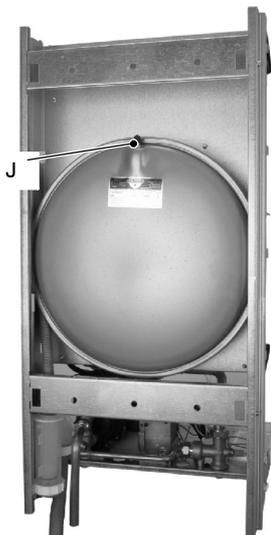

Fig. 6 Rear view of the boiler
- 2 Remove the protective cap *J* (Fig. 6) from the valve on the top of the expansion vessel and connect a suitable air pressure gauge.